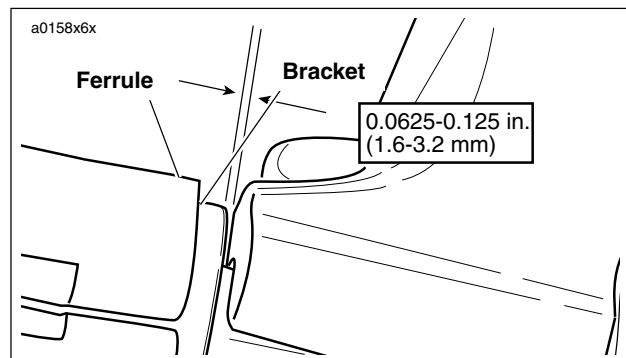

Figure 1-13. Adjusting Clutch Freeplay
- Remove spring (4) and lockplate (5). Turn adjusting screw (6) counterclockwise until it lightly bottoms.
- Turn adjusting screw (6) clockwise 1/4 turn. Install lockplate (5) and spring (4) on adjusting screw flats. If hex on lockplate does not align with recess in outer ramp, rotate adjusting screw clockwise until it aligns.
- See Figure 1-13. Pull ferrule (end of cable housing) away from bracket. Gap between ferrule and bracket should be 0.0625-0.125 in. (1.6-3.2 mm).